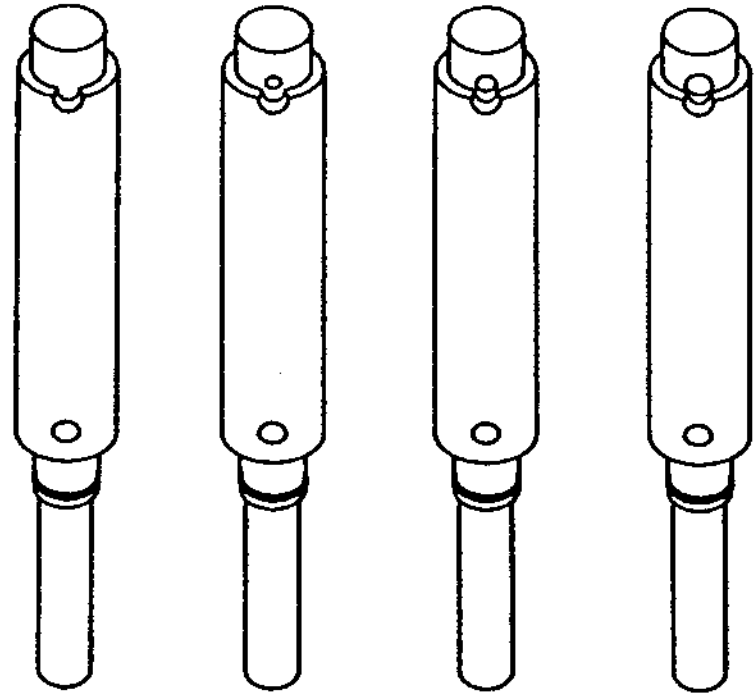

Fig. 28
4. Install the carburetor tubes into the holes in the mix pans with a gentle twisting motion. Turn the inserts to the closed position (Fig. 28).